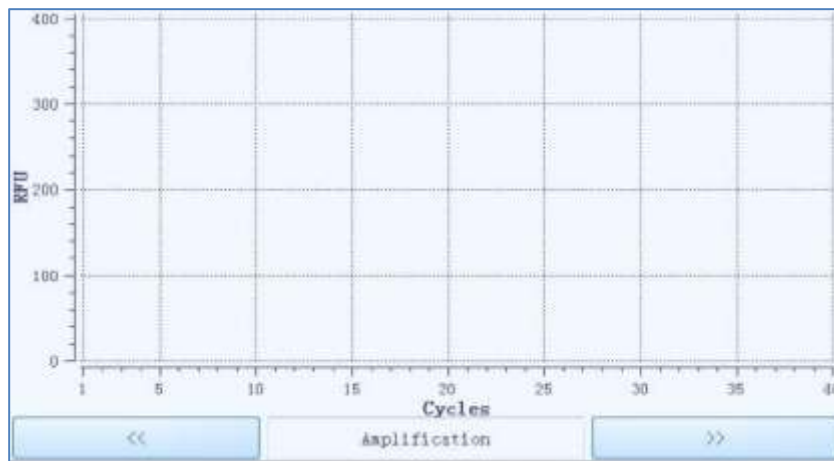

Figure E-5.1 Run Monitoring Diagram - Real-time Amplification Curves
- ▶ If users select the **Fluorescence** option in the run monitoring option bar, users can press  or  keys below the run monitoring diagram to choose the monitor content, which can be the real-time **Amplificaiton** curves, **Melting** curves or fluorescence **Heat Map** of the current experiment, as shown in figure E-5.1.
- a. The run monitoring diagram will display the real-time **Amplification** curves of the current experiment by default, as shown in figure E-5.1